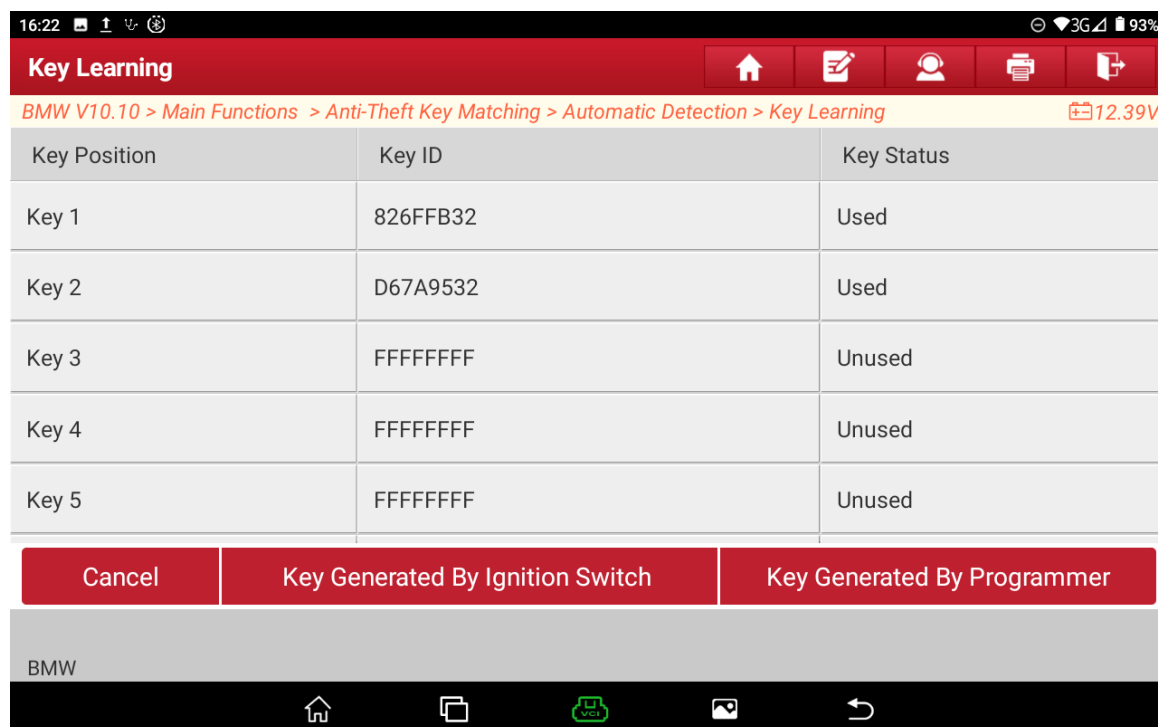

Figure 35
35. Select the blank key position. Select **【Key 3】** here and select **【Key Generated By Ignition Switch】**, as shown in Figure 35.